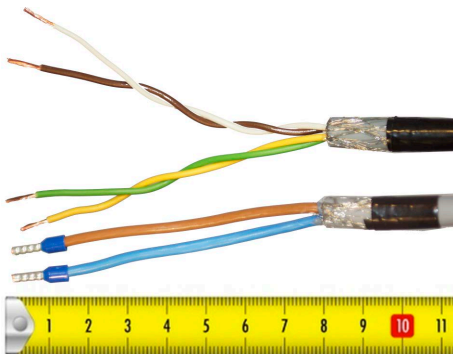

Figure 4: Cable Preparation Sending Cable Sides
4. Attach the remaining visible grounding shield to the metal saddle on the rear of the instrument. See *Figure 4: Cable Preparation Sending Cable Sides* on page 13.